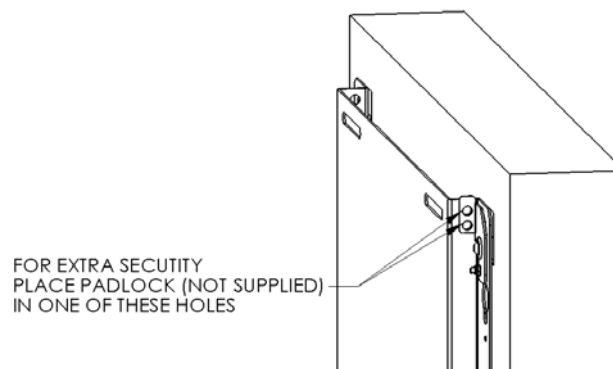

Figure 5
6. Position (raise) the flag to secure the display. Use padlock (not supplied) to secure flag to mount if needed (see Figure 5).